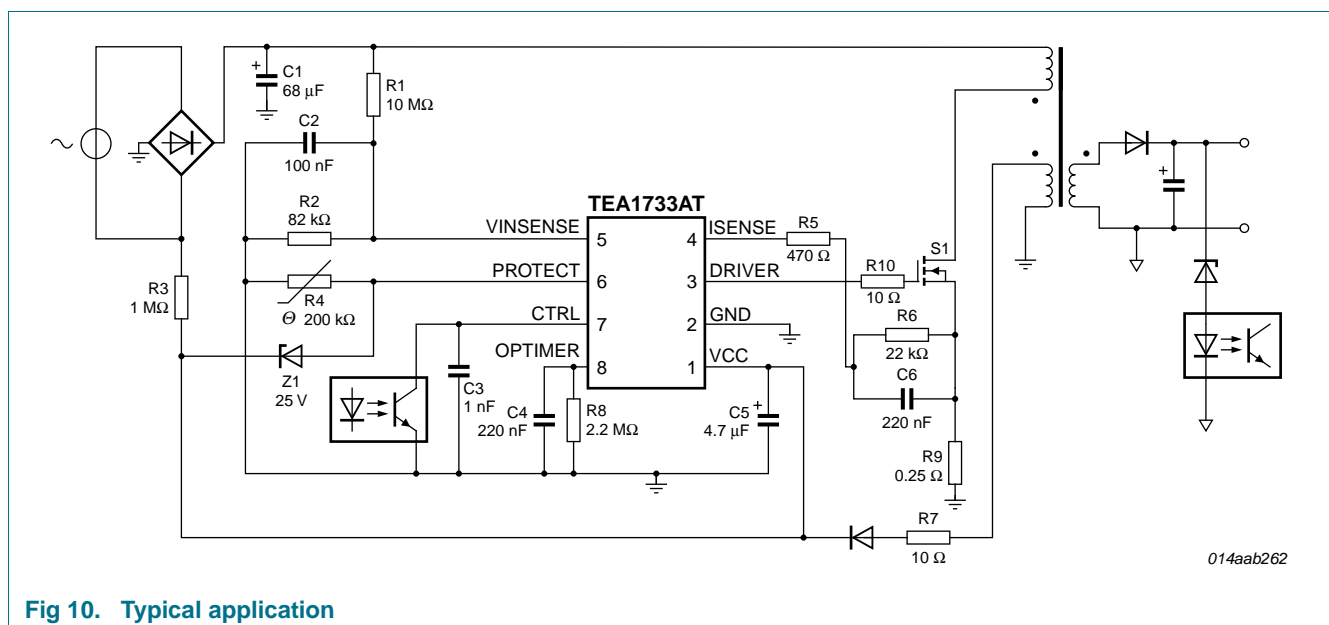

Fig 10. Typical application
A power supply with the TEA1733AT is a flyback converter operating in Continuous conduction mode (see Figure 10).
In the example shown in Figure 10, the PROTECT pin is used for OVP and OTP. The OVP level is set by diode Z1 to $V_{CC} = 25.8$ V. The OTP level is set by Negative Temperature Coefficient (NTC) resistor R4. The VINSENSE pin is used for mains voltage detection and resistors R1 and R2 set the start voltage to about 80 V (AC). The overpower protection time is defined by capacitor C4 at 60 ms.